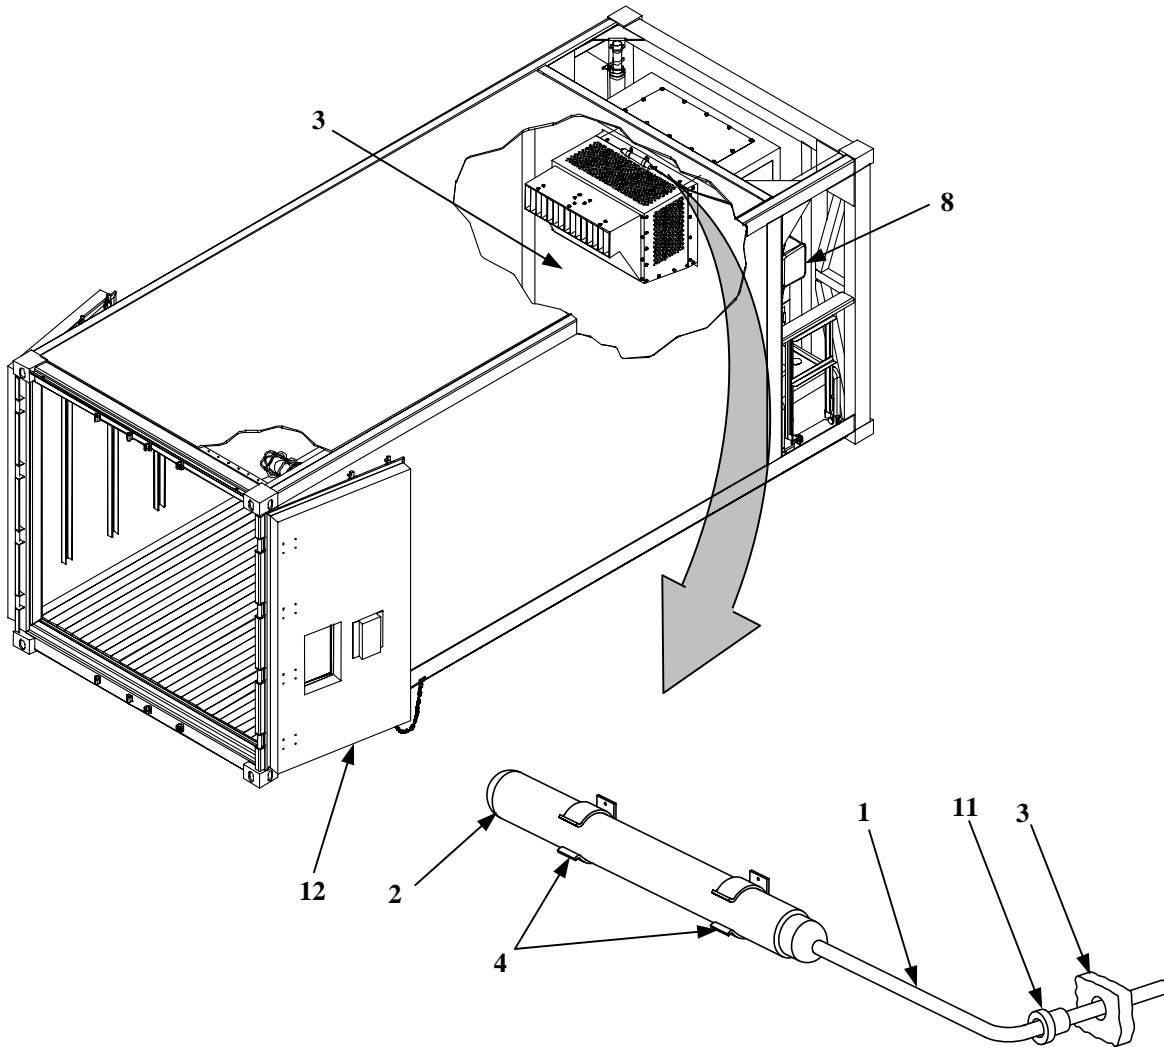

Figure 2. Recording Thermometer Element, Installation (Sheet 1 of 2)
1. Carefully uncoil enough tubing (1, Figure 2) to allow bulb (2) to be passed through the front wall (3) to inside of the container.
2. From inside of the container, install bulb (2) and tube (1) into two supports (4).